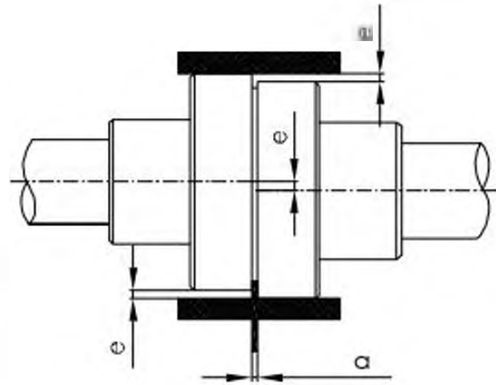

Fig. 3. Aligning a flexible coupling
- To control parallel sliding error, straight edged steel ruler is pressed down on one half of the coupling in parallel to the axis. It is checked against the other half. Straight edge must touch to the both half couplings completely same at all points in each vertical and horizontal planes (**Fig. 3**)